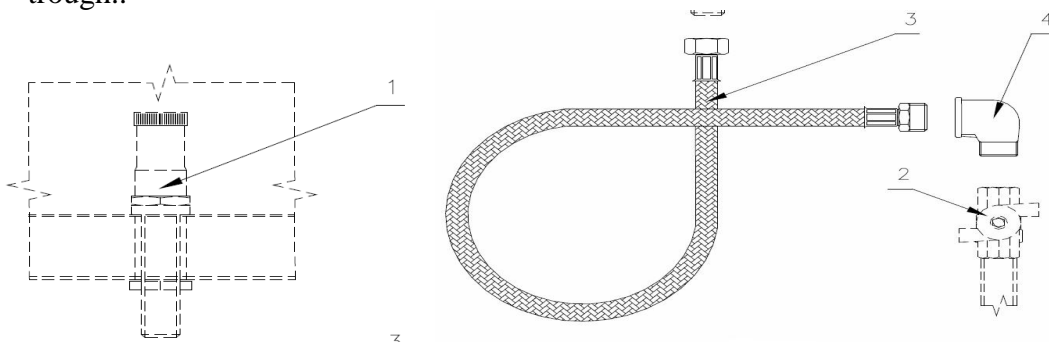

Fig. 4. Water connection.
Water is delivered from water mains to the float valve (Fig. 2) via a closing ball tap 1/2" FF (item. 2, fig. 4) – **IT IS OUT OF DELIVERY**, (item. 4, fig. 4) and braided rubber hose HTOT water 1500mm (item 3, fig. 4) 1/2" In this way water delivery to the drinking trough is not throttled at any cross-section and thereby the float valve can respond to any water loss very quickly. The hose must move freely in the base at skipping and closing the trough..